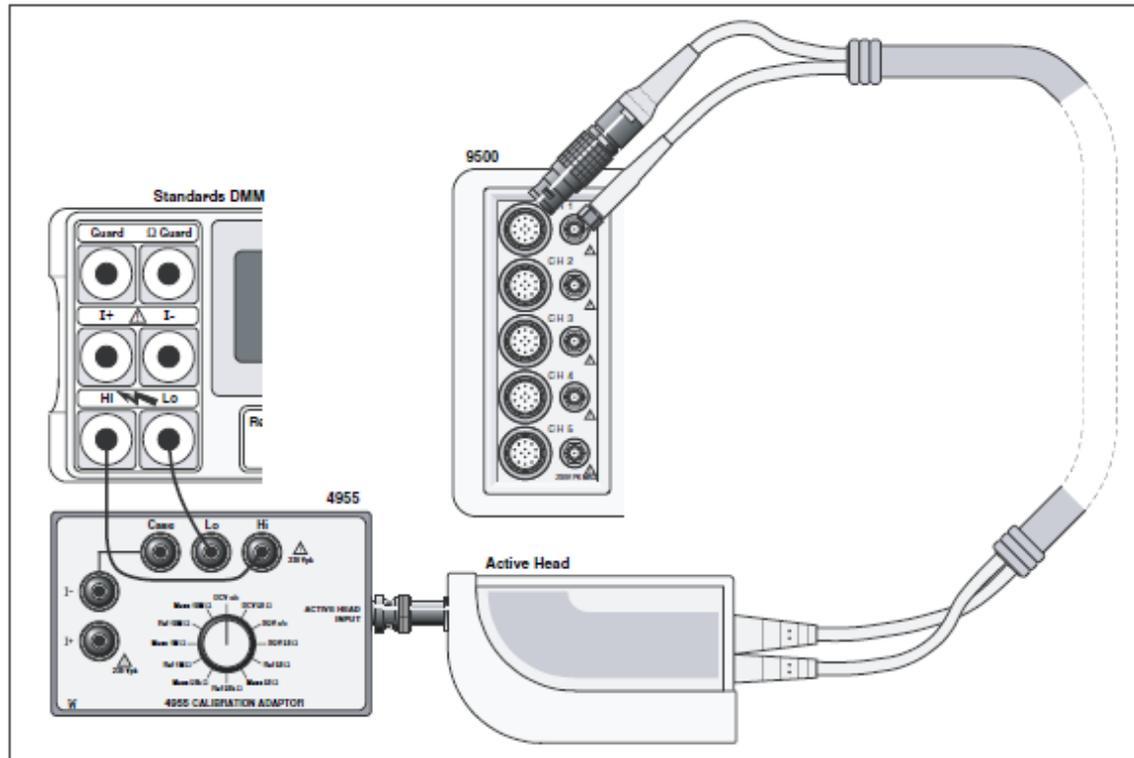

Figure 14. DC/Square; DC Voltage Calibration — Interconnections
1. Connections: Ensure that the 9500B is connected to the Standards DMM as shown in Figure 14, or via a similar BNC-4 mm adaptor, and that both instruments are powered on and warmed up.